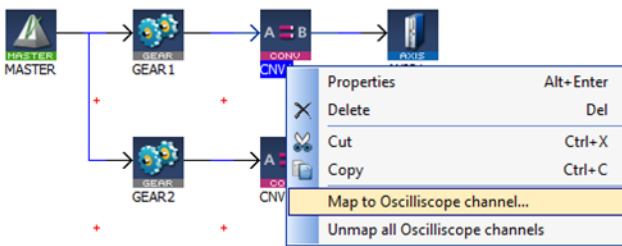

Figure 10-47: Map to Oscilloscope channel ... menu option
2. In the menu, click the **Map to Oscilloscope channel ...** (Figure 10-47)